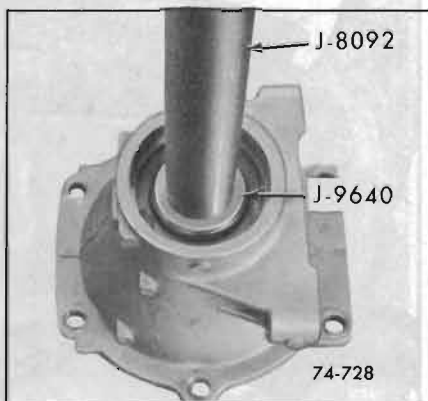

Figure 74-728
a. Use J-8092 Drive Handle and Tool J-9640 remove. See Figure 74-728.
b. Using Tool J-9640 install bushing. See Figure 74-728.